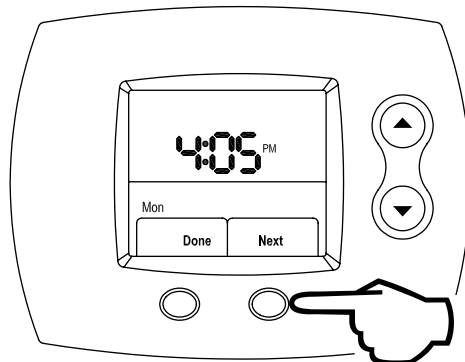

Figure 43
Step 6: When the correct minute is shown, press the **RIGHT** (Next) button. This is shown in Figure 43.